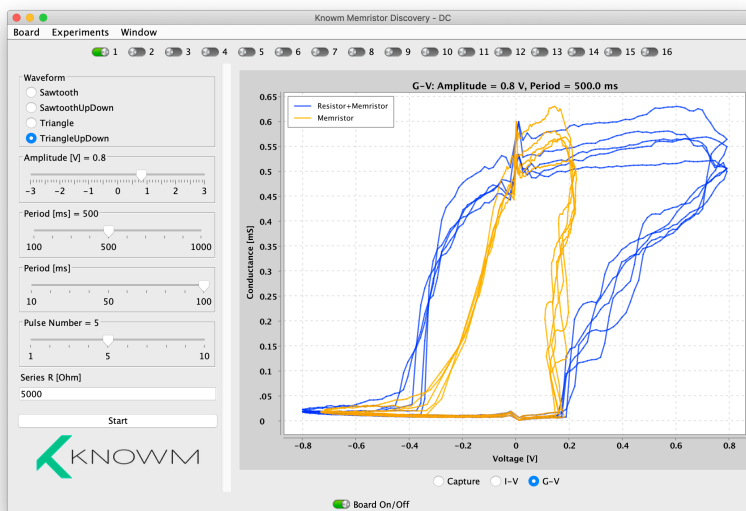

Figure 22: DC G-V plot capture of memristor
The second feature of Figure 22 to take note of is that when we get to the peak conductance and the voltage is dropping, the conductance is not perfectly stable. Rather, it falls a bit as the voltage falls. This is due to a *relaxation* of the memristor. When you drive the memristor into a high conductance state and then remove the drive voltage, it will relax slightly to a lower conductance. It only relaxes a bit—not all the way back to the HRS. This will become more obvious when we get to the Pulse Experiment. As we get close to zero ($< .05V$) the measurements can become wildly inaccurate due to noise.
First take a look at (1) and (2), which shows the memristor conductance versus the applied drive voltage and voltage across the memristor. Notice that once the voltage across the memristor reaches the forward threshold, the conductance increases while the voltage drop is very close to constant. Meanwhile, the drive voltage keeps increasing. This is a result of negative feedback specific to a forward-biased memristor-resistor circuit, and we explained why this occurs when discussing Figure 22. If you do not understand please take another look